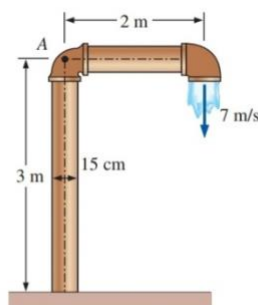

FIGURE P6-55
**6-55** Water is flowing through a 15-cm-diameter pipe that consists of a 3-m-long vertical and 2-m-long horizontal section with a  $90^\circ$  elbow at the exit to force the water to be discharged downward, as shown in Fig. P6-55, in the vertical direction. Water discharges to atmospheric air at a velocity of 7 m/s, and the mass of the pipe section when filled with water is 15 kg per meter length. Determine the moment acting at the intersection of the vertical and horizontal sections of the pipe (point A). What would your answer be if the flow were discharged upward instead of downward?